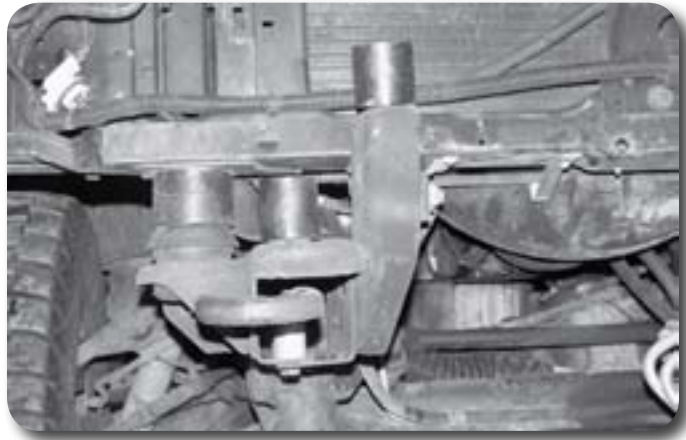

Figure 41
74. Set four 2" x 2" body blocks on the four front bumper mounting points **Figure 41**. Set the front bumper up to the mounts and mark where the front valance needs to be trimmed to clear the frame. The valance may not require trimming in some cases.